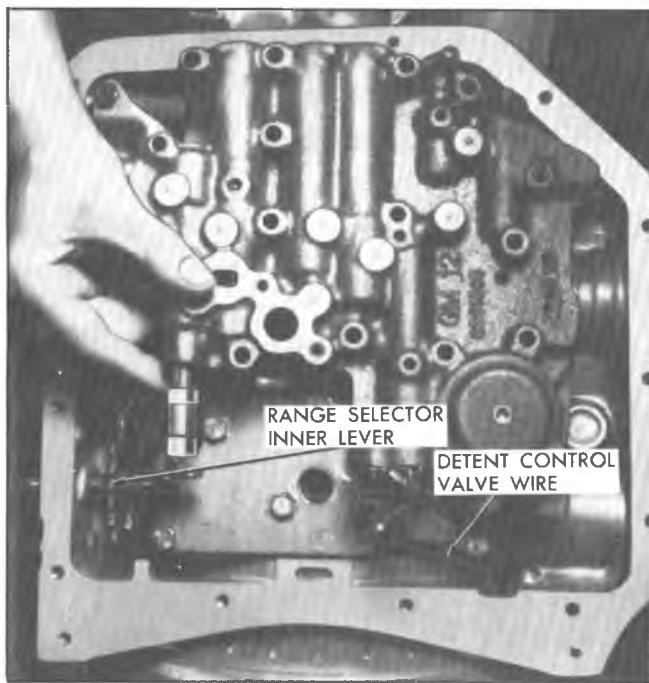

Fig. 12M--Removing Manual Control Valve Link,
2. Remove manual control valve link from range selector inner lever. Remove detent control valve link from detent actuating lever (fig. 12M). Refer to page 7A-37 for valve body disassembly.